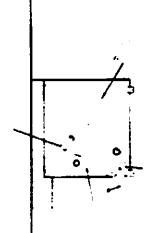

FIGURE 5
3. **TENSION END:** Vertical Release Arm swings away from wall and Horizontal Release Arm Drops. Tension Wheel will rotate rapidly for 1/2 turn and hesitate as Impact Pawl engages and starts Curtain "DOWN". Tension Wheel will continue to rotate until Tension Wheel Bolt hits back of Horizontal Release Arm shown in Figure 5.